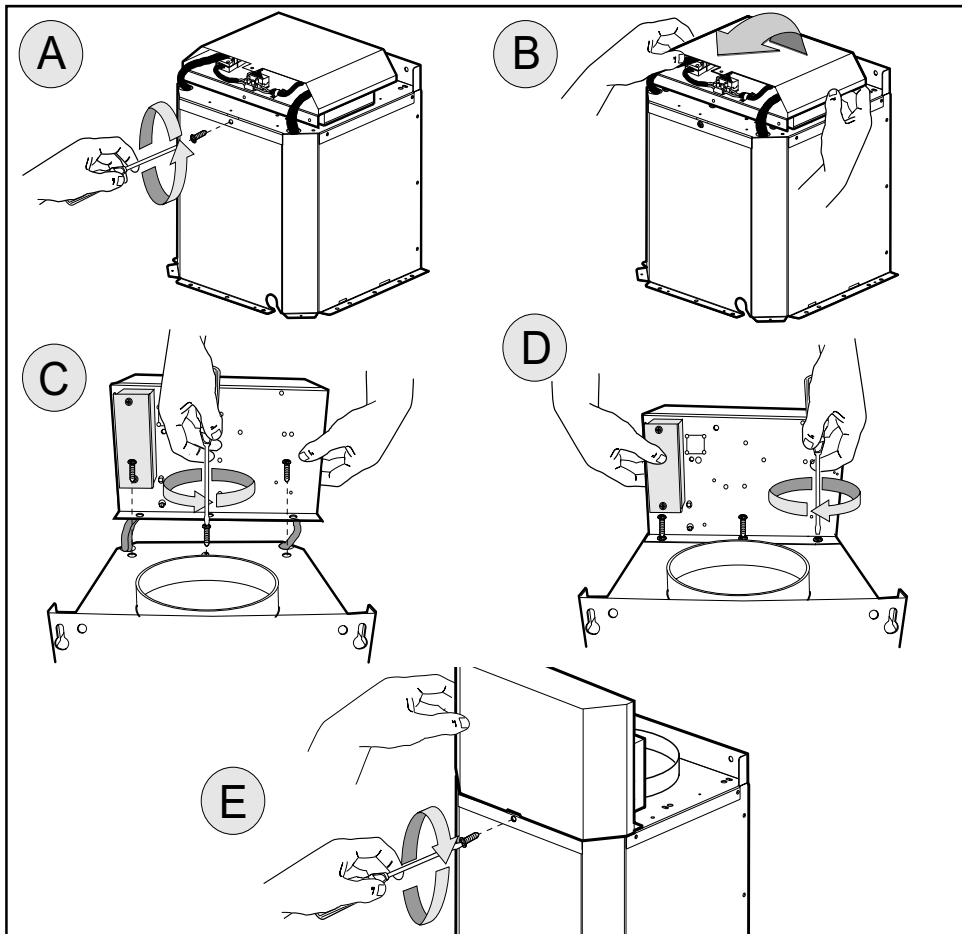

Fig.1
The appliance has been designed for use in the ducting version (air exhaust to the outside – Fig.1).
■ **WARNING - TO REDUCE THE RISK OF FIRE, ELECTRIC SHOCK, OR INJURY TO PERSONS, OBSERVE THE FOLLOWING: Before making electrical connections to power supply, the electrical box must be secured in place as indicated in fig.1**